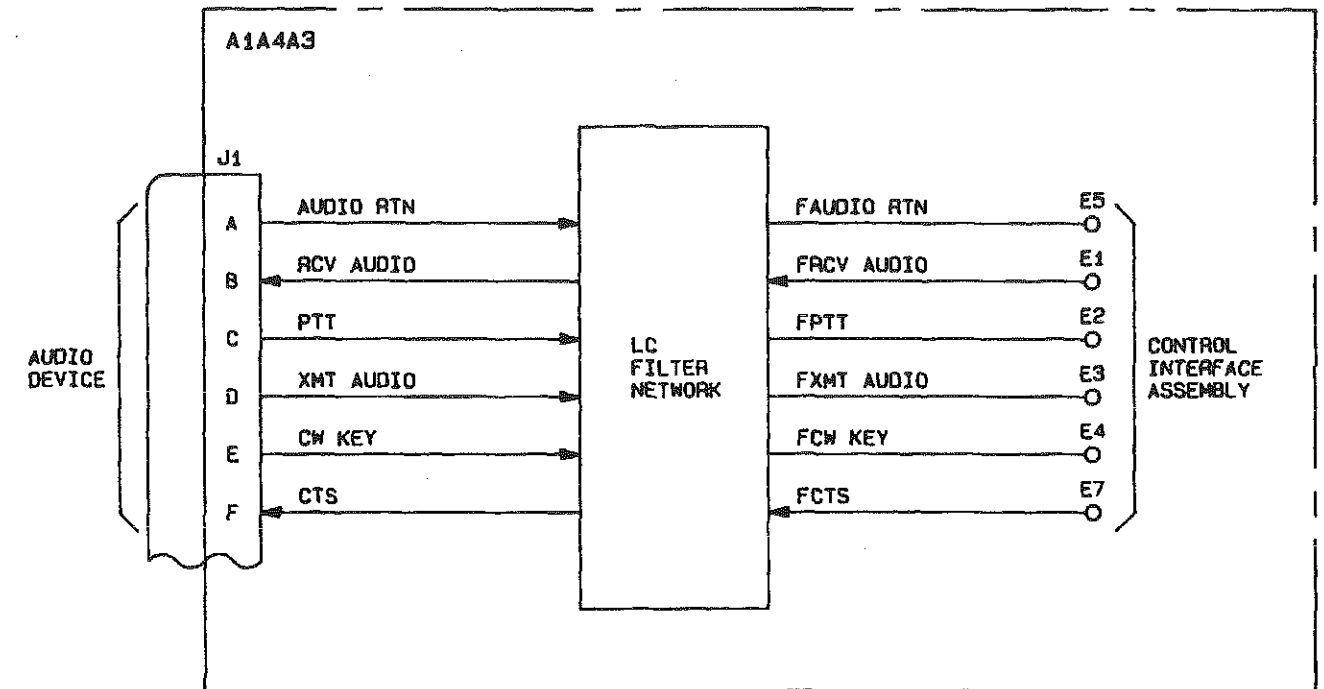

Figure 2-8. Audio Filter Assembly
**AUDIO FILTER ASSEMBLY, fig 2-8**